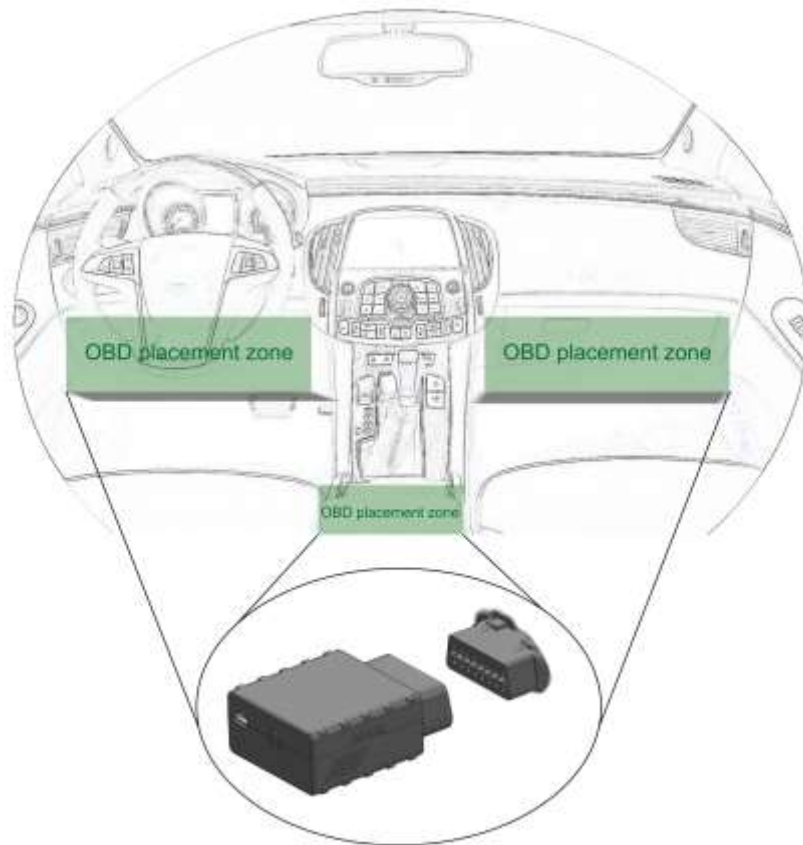

Figure 37 OBD-II extension cable
- 2) Plug in FM1000 device in OBD-II connector or use optional extension cable (Figure 37);